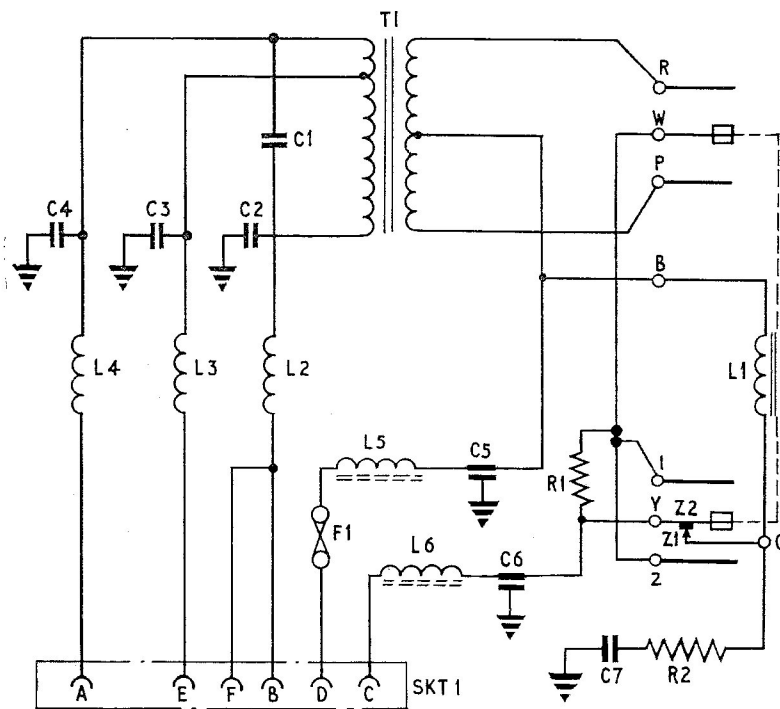

Fig. 3. Circuit diagram
7. A radio frequency suppression network is included consisting of C2, C3, C4, C5, C6, L2, L3, L4, L5 and L6. Spark quenching is provided by capacitors C1 and C7 (fig. 3).